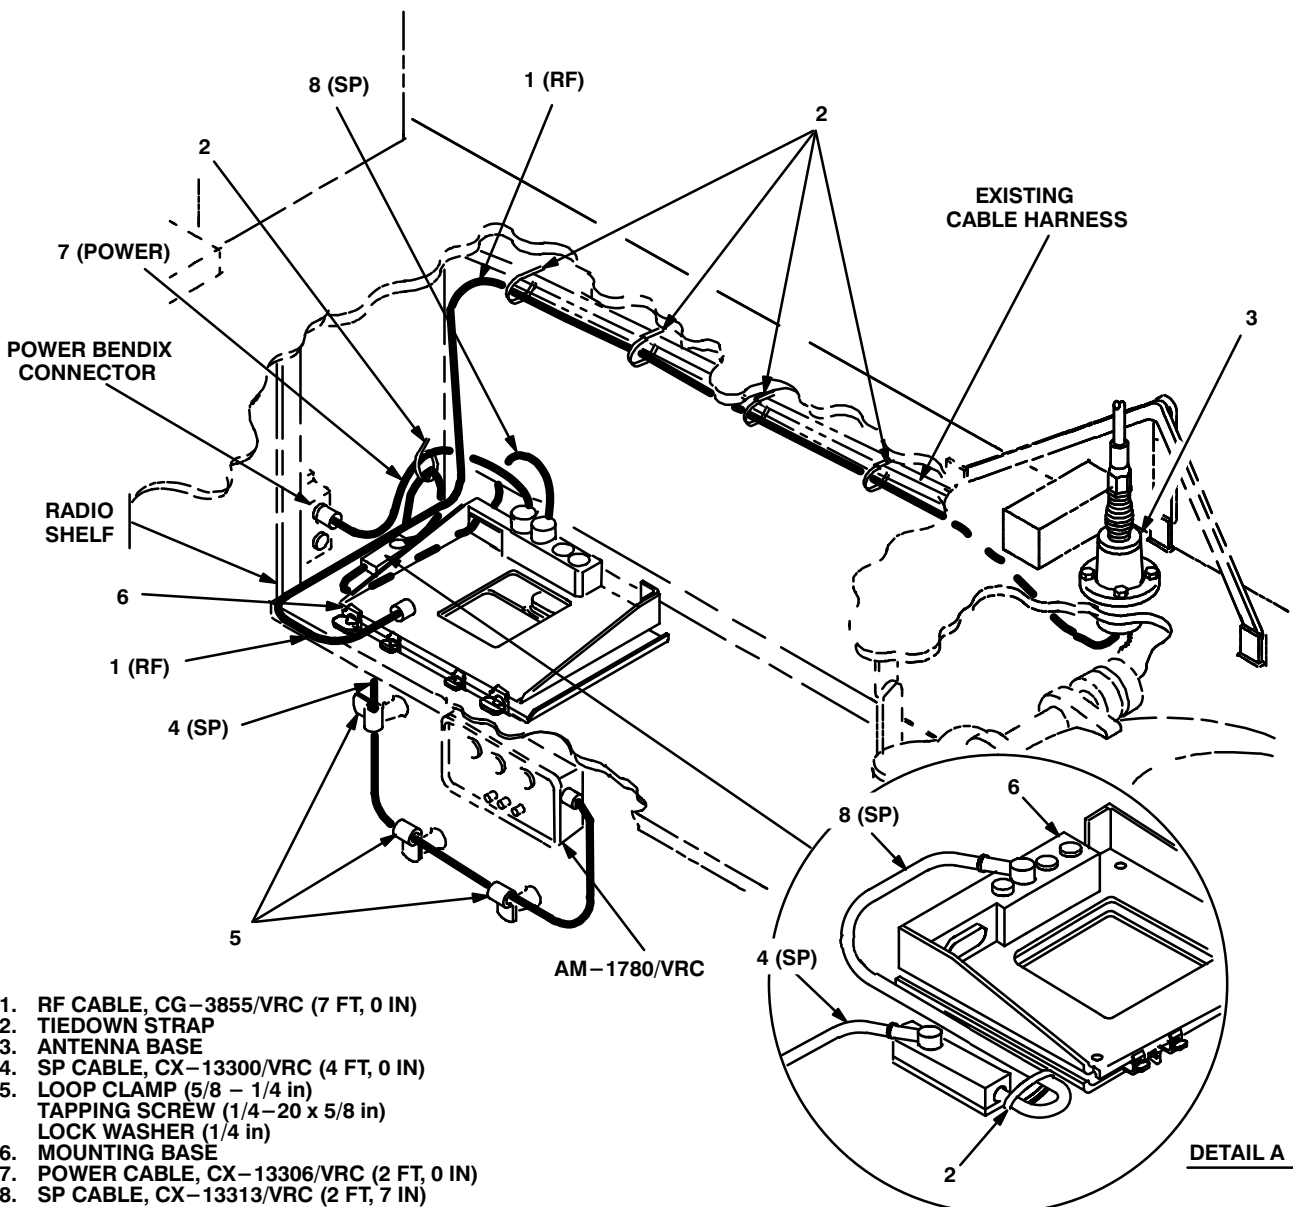

Figure 5-5. Cable Installation: Roadside Interior
a. RF cable (1) connector P1.	Connect and secure to antenna base (3) connector J1. See figure 5-5.